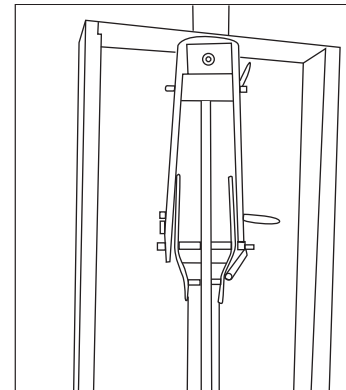

Fig 15
4. Shorten the length of the adjustable outer sleeve then extend arm to fit into conduit. Always make sure conduit and adaptor sits flush around the conduit you are pulling through. Thread rope under front roller and over main roller (Fig 15).